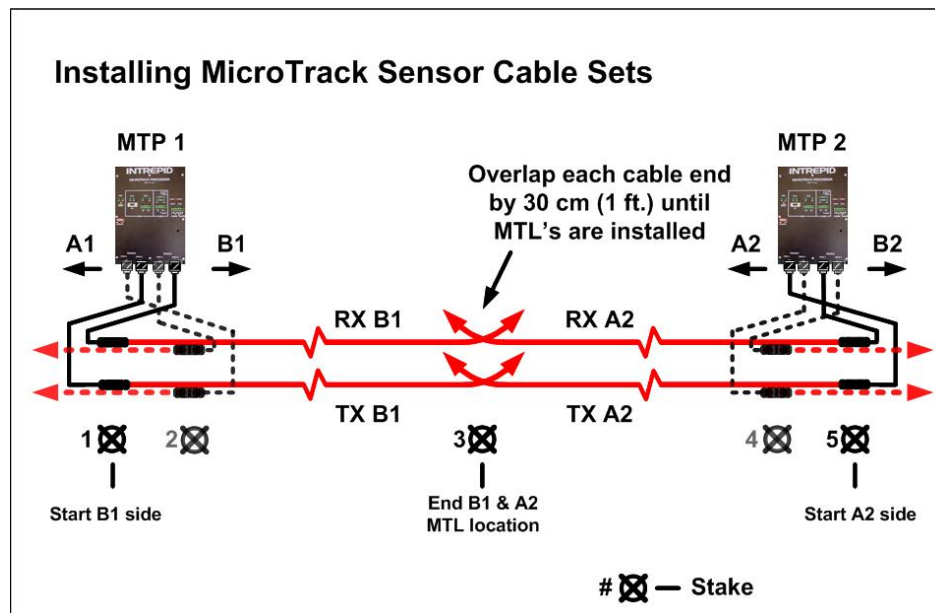

Figure 5.11 Installing Sensor Cable Sets Between MTP's
To install the two adjacent sensor cable assemblies TX A2 and RX A2, as shown below in Figure 5.11, repeat the above steps. The sequence is described below, however, just remember we will now be installing the “A” side cables and setting aside the “B” side cables:
MicroTrack Links connect the ends of adjacent MicroTrack sensor cable assemblies, as shown below in Figure 5.11. They are installed in the field and prevent the RF field from passing from one sensor cable assembly to the next while allowing FSK data and power to continue to the next sensor cable assembly.
1. Position the MTL beside the stake defining the junction for the two adjacent sensor cable assemblies, e.g., stake #3 in Figure 5.11.